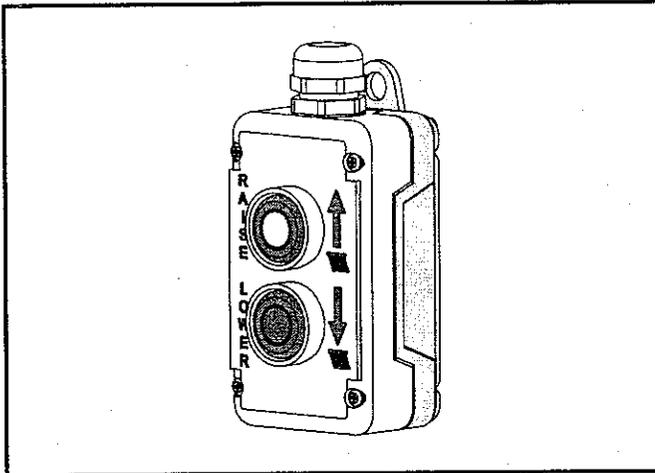

Figure 12 – Hand Control Operation
2. As shown in Figures 12 and 13, depress the raise button or pedal to raise the platform to a convenient height. **CONTINUOUSLY WATCH** the condition of the load as the platform is raised. If the load appears to be shifting, **STOP**, lower the platform and adjust the load.
2. Depress the lowering button or pedal (see Figures 12 and 13) to lower the lift platform. **CONTINUOUSLY WATCH** the condition of the load as the platform is lowering. If the load appears to be shifting, **STOP** and adjust the load. All EZ Off Lifters are equipped with a feet clear safety circuit. When lowering the platform, this safety control feature automatically stops the platform descent at 9.00 in. (229 mm) above the floor. To continue lowering the platform, release the "LOWER" button and depress it a second time. At that time, the warning lights and beeper alert the operator and others to stay clear of the platform that is preparing to lower. After a three (3) second delay, the platform will lower to its minimum height.